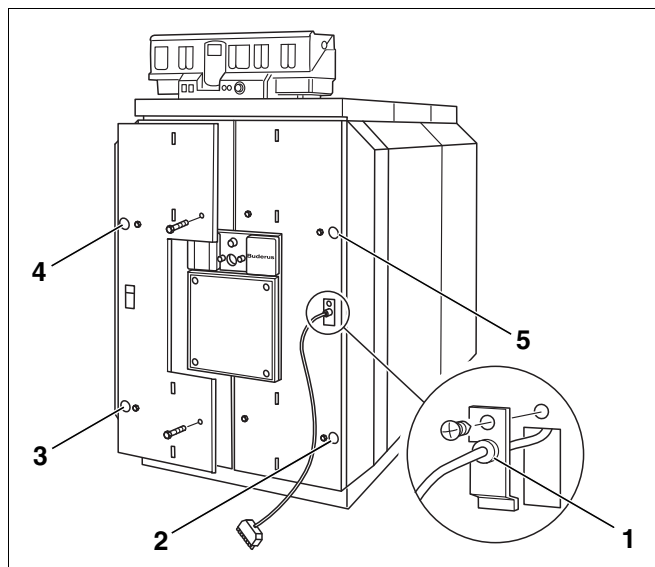

Fig. 57 Install the burner door casing
- ▶ Snap burner cable with strain relief into cable entry (Fig. 57, [1]).
- ▶ Fit the burner door cladding on the burner door from the front and screw on with four machine screws (Fig. 57, [2] to [5]).